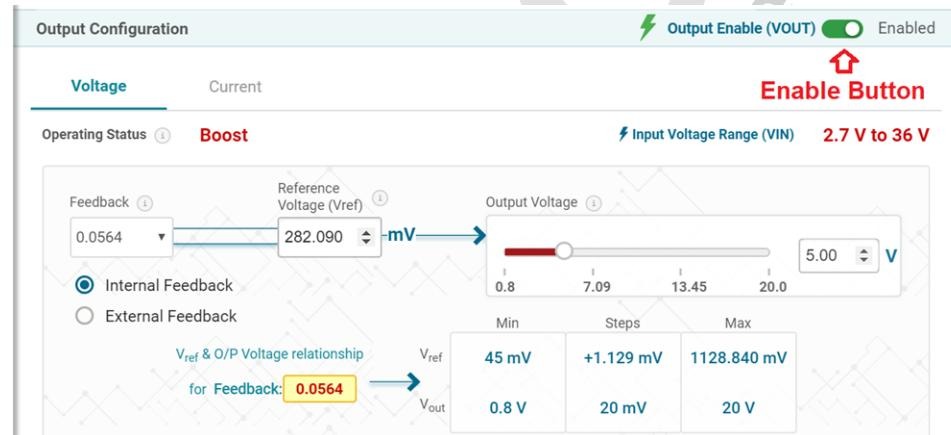

Figure 5. ENABLE Button
Step 5: Click the Enable button (Figure 5). The default output voltage is 5 V.